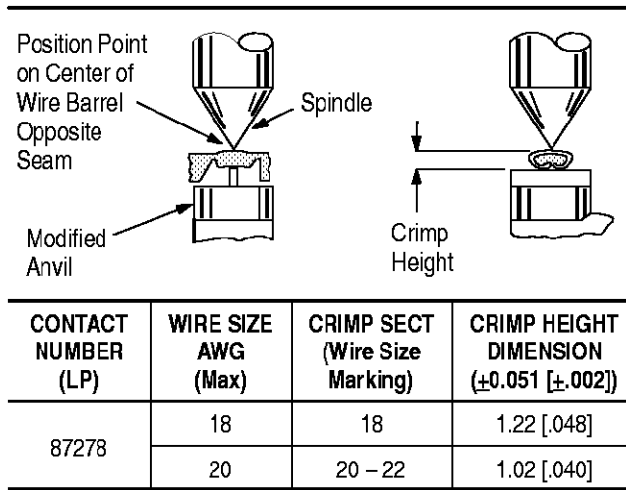

Figure 4
This inspection requires the use of a micrometer with a modified anvil as shown in Figure 4. It is
1. Refer to the table in Figure 4, and select a contact and a wire (maximum size) for each crimp section listed in the table.
3. Using a crimp height comparator, measure each wire barrel crimp height as shown in Figure 4. If the crimp height conforms to that shown, the tool is considered dimensionally correct. If not, refer to Section 6 for information on obtaining evaluation and repair.
1. Select a contact and wire (maximum size) for the tool. See Figure 4.